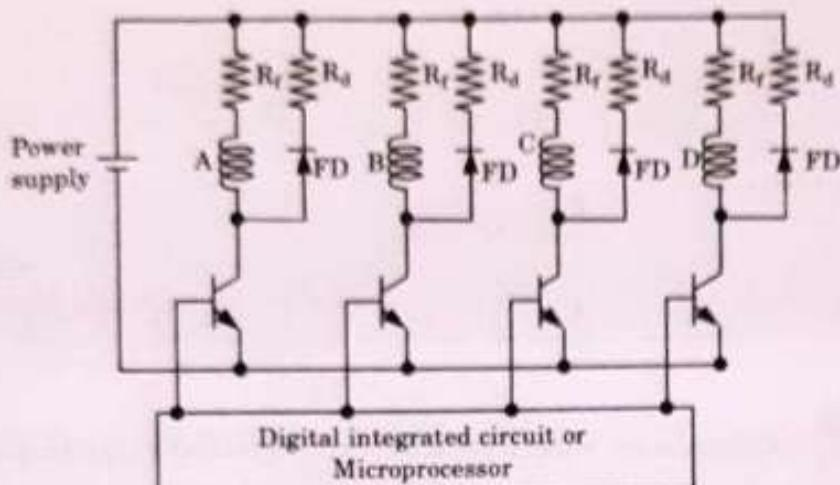

Fig. 2.14.1. Unipolar drive circuit for a 4 ϕ VRSM.
1. A simple unipolar drive circuit for a 4ϕ stepper motor is shown in Fig. 2.14.1.